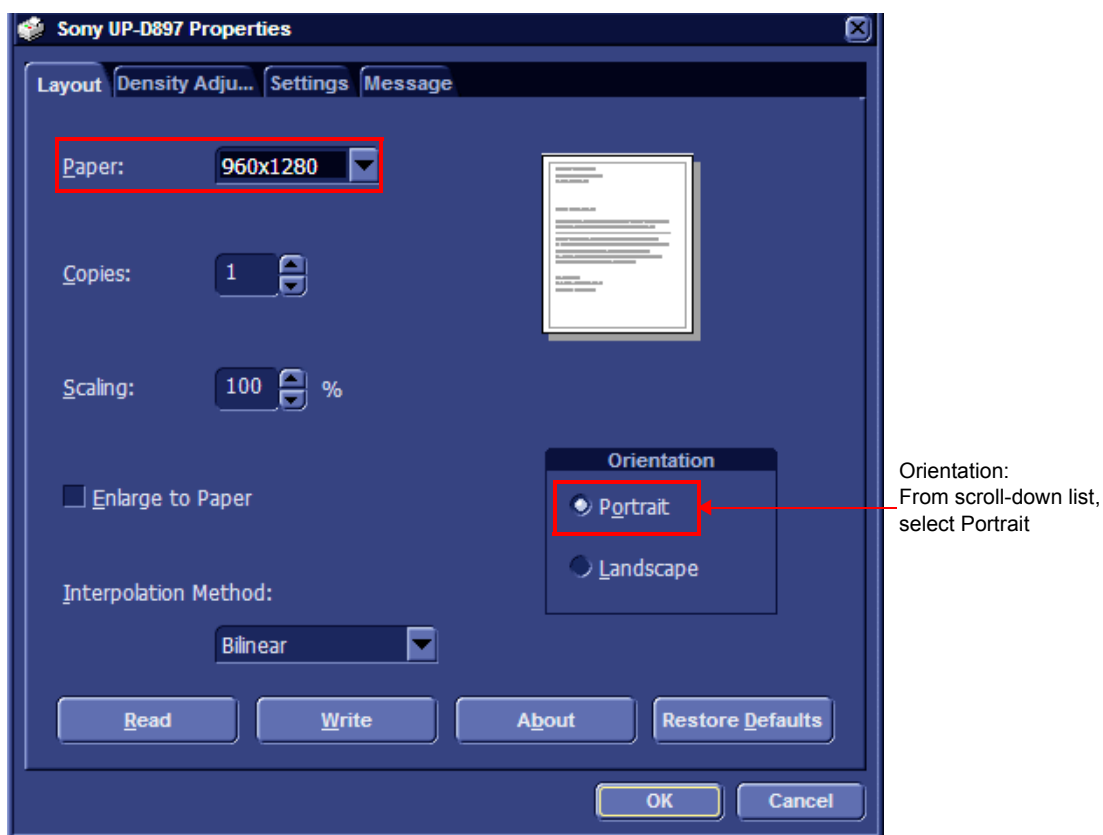

Figure 3-42 Printing Properties - Selecting Orientation
6.) Click **Properties**. The printer properties screen opens - Figure 3-42.